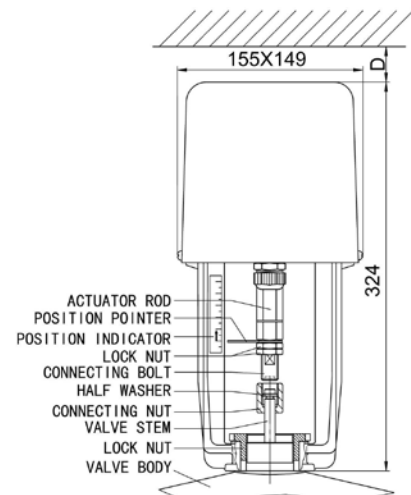

Fig.2
\*Note: "D" in Fig. 2 should be more than 160mm for installation and maintenance.
18. Install the actuator bracket on the valve body. Mount the connecting nut on the valve stem. Put the two half washer into the groove of the top of valve stem, then screw the connecting bolt into the connecting nut. The degree of tightness depends on whether the valve stem and other parts can rotate correspondingly and without axis clearance. And then lock the nut tightly. Finally use lock nut to tighten the actuator. (See Fig. 2)
19. Give priority to vertically installation, and the lean should not more than 30°, remain enough space for maintenance use. (See Fig. 2)